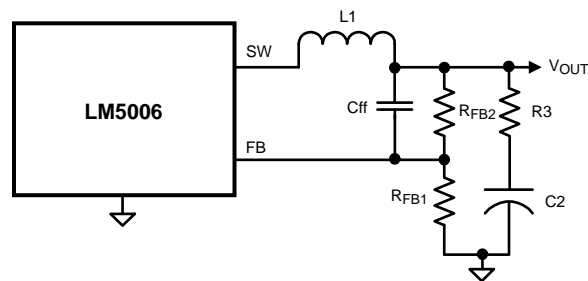

Figure 38. Reduced Ripple Configuration
a) Reduced ripple configuration: In Figure 38, C_{ff} is added across R_{FB2} to AC-couple the ripple at V_{OUT} directly to the FB pin. This allows the ripple at V_{OUT} to be reduced to a minimum of 25 mVp-p by reducing R_3 , since the ripple at V_{OUT} is not attenuated by the feedback resistors. The minimum value for C_{ff} is determined from: